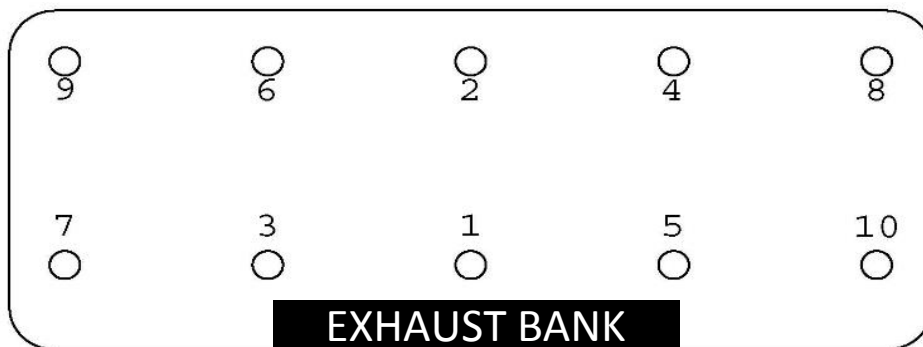

Figure 1 - Head Nut Loosening / Tightening Sequence
- 5) It is absolutely necessary that a small amount of neversieze, oil or grease is applied to the head nut end of the stud prior to torquing. Using the same torque sequence as shown below in Figure 1, torque the head nuts in **15lb increments**. KPMI recommends a final torque range of **50 lb to 55 lb**. This is a 10mm stud being threaded into aluminum and the clamping force being achieved with these Heavy Duty KPMI® Black Diamond™ Studs will be a combined increase of over 2900 lbs. from stock. If an experienced engine builder wants to exceed the recommended torque, they may do so at their own discretion.